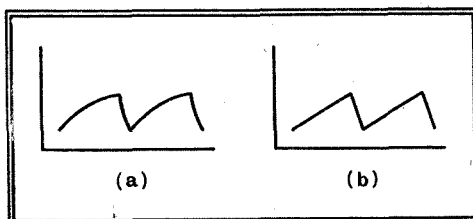
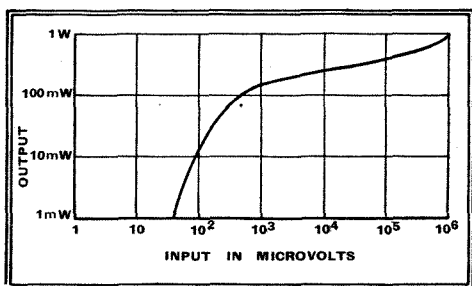

Fig. 2.—The usual exponential waveform is shown exaggerated at (a) and the ideal linear waveform at (b).
Fig. 1.—Typical AVC characteristic as measured at a frequency of 1,000 kc/s by the descending signal strength method.
The voltage waveform across C is of the form shown exaggerated in Fig. 2(a), whereas it should be linear as in (b). In practice, exponential charging is satisfactory if the amplitude of saw-tooth voltage is small enough in relation to the HT voltage, for the initial portion of an exponential curve is nearly linear. It is desirable that the saw-tooth amplitude should not exceed 7 per cent. of the HT voltage.
WHEN testing a receiver by means of a signal generator to find out if all is well, it is usual to check the sensitivity at various frequencies, and perhaps also the selectivity. It does not seem to be generally realised, however, that one of the most informative tests is taking an AVC curve. Perhaps this is because when taken by the commonly prescribed method it is *not* very informative. The official instructions are to adjust the output of the signal generator, modulated the usual 30 per cent., to 1 volt (which is impossible with many good generators), and to set the volume control of the receiver so that a quarter of the rated maximum output is delivered. Leaving the volume control at this position, the signal is then successively reduced and the corresponding outputs noted. Fig. 1 is a curve taken in this way.
The results for the receiver concerned in Fig. 1 might be entered like this:—
Fig. 2.—AVC characteristic, again taken at 1,000 kc/s, obtained by the ascending signal strength method. Valuable information on the design is revealed, including the desirability of reducing the delay voltage to alter the characteristic to the position shown by the dotted line.
When plotted they give Fig. 2. Although superficially very similar to Fig. 1 resulting from the alternative method of test, the only information that can be derived from Fig. 1 is that the AVC takes control at about 30 μ V input and above that is quite up to average effectiveness for a normal type of receiver with 3 controlled stages; whereas the following additional information is given by Fig. 2:—
(1) The output power corresponding to any signal strength and volume control setting. For example, a 10-millivolt signal modulated 30 per cent. and with the volume control set at one quarter voltage (one sixteenth in power) would give an output of about 1 watt. Modulated 60 per cent., and neglecting distortion, the output would be 4 watts, but as the nominal output for this receiver is 3½ watts there would be some overloading. The remaining threequarters of the volume control would merely intensify the overloading. The only signals for which volume control maximum could be tolerated are those that are so weak as to be below the point where AVC operates. Therefore, the greater part of the volume control range is useless, due to excessive AVC delay voltage. A more satisfactory result would be given by dropping the flat part of the curve to the dotted position.
(2) The approximate decrease in delay voltage required is given by the square root of the power ratio between the full and dotted lines. In Fig. 2 the power is to be reduced to about a third, so if the